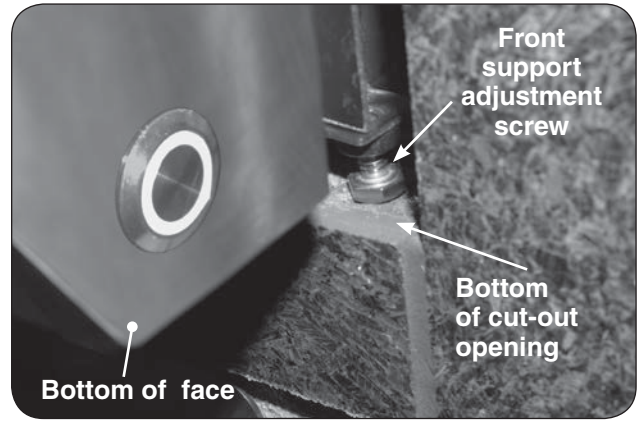

Fig. 22-1 Front support adjustment screws
- Rotate the front support adjustment screws to the left to raise and to the right to lower the respective side of the appliance grill. Use a $\frac{7}{16}$ " open-end wrench as needed. See Fig. 22-1.